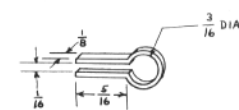

Fig. 6
17. Prepare a sheet metal loop. (Fig. 6). Slip the eye over the end of the rod and solder the inside flat sides to the end of the carriage-return lever. Use a soldering iron, not a torch. Excessive heat will damage the lever.